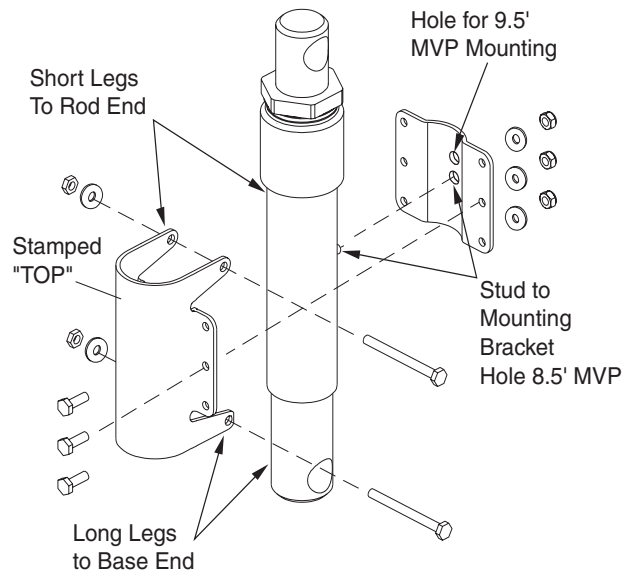
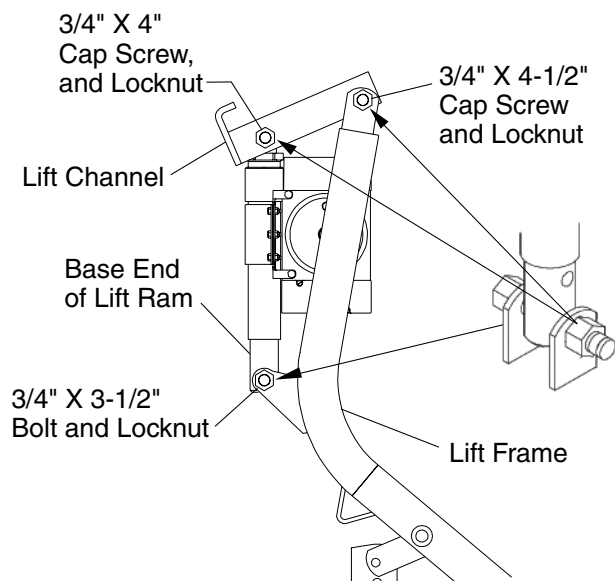

Figure 10
Figure 12
(Refer to Figure 12.)
The hole in the back bracket fits over the stud on the lift ram. **See Figure 10** for bracket placement on 9.5' MVP. Secure as shown in **Figure 12** with six 1/4"-20 x 3/4" bolts, 1/4" flat washers, and nylon locknuts. Torque to 9 ft./lb. (**See Figure 10.**)
9. Position the hydraulic unit with the nameplate facing the blade. Place the base end of the lift ram into the hole of the bracket on the lift frame and secure with a 3/4" x 3-1/2" cap screw and locknut. (See Figure 12.)